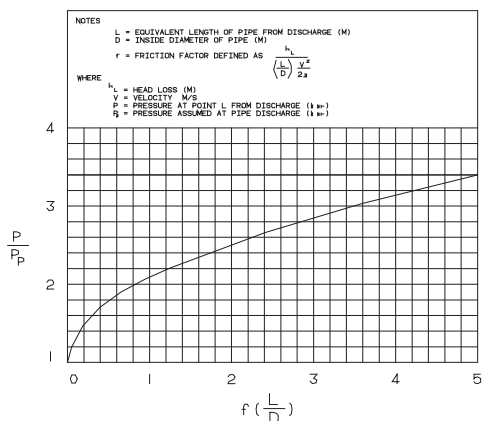

FIGURE 1
5.6.2 Estimate the steam conditions (pressure, enthalpy) at the boiler outlet expected during steam steam blow. From the curves on Figure 1, read the mass flow function, F_{30} . Calculate the mass flow, Q_c , as follows: